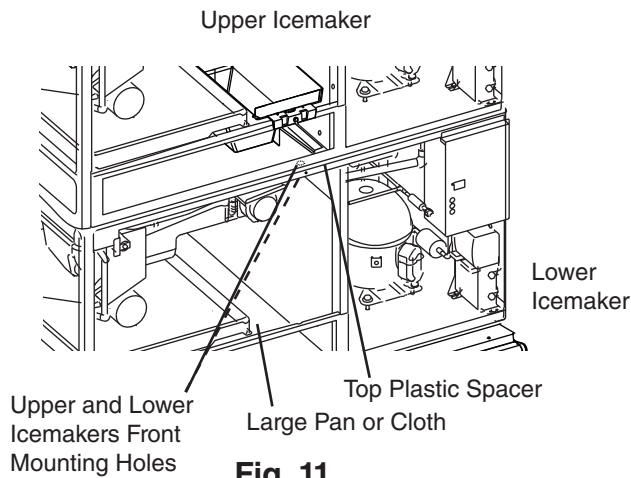
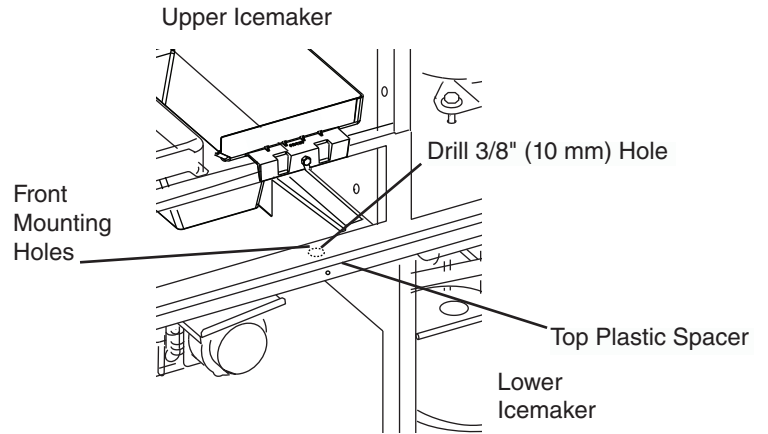

**Fig. 9**
**Fig. 10**
- 17) Stack the upper icemaker on top of the lower icemaker. Use of a duct jack may be required. See Fig. 9. **WARNING! Icemaker is heavy. Use care when lifting or positioning. Work in pairs when needed and use a duct jack if available to prevent injury or damage.**
- 18) Once in place, make the front, rear, and side panels flush to the lower icemaker. See Fig. 9.
- 19) At the rear of the icemakers, locate the upper and lower icemakers rear mounting holes. See Fig. 9. To prevent plastic shavings from entering the ice storage bin area during drilling, place a large pan or cloth under the icemakers rear mounting holes. Using the icemakers upper or lower mounting hole as a guide, drill a 3/8" (10 mm) hole down or up through the top plastic spacer between the upper and lower icemaker. See Fig. 10.
- 20) Secure the upper icemaker to the lower icemaker using one of the hex bolts w/washer and nuts provided in this kit. See Fig. 10.